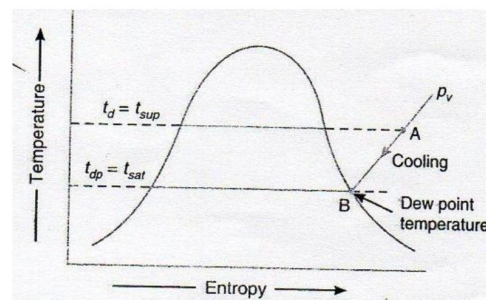

Fig.1. T-s diagram
11. **Dew point temperature.** It is the temperature of air recorded by a thermometer, when the moisture (water vapour) present in it begins to condense. In other words, the dew point temperature is the saturation temperature ( $t_{sat}$ ), corresponding to the partial pressure of water vapour ( $P_v$ ). It is, usually, denoted by  $t_{dp}$ . Since  $p_v$  is very small, therefore the saturation temperature by water vapour at  $p_v$  is also low (less than the atmospheric or dry bulb temperature). Thus the water vapour in air exists in the superheated state and the moist air containing moisture in such a form (i.e., superheated state) is said to be unsaturated air. This condition is shown by point A on temperature-entropy (T-s) diagram as shown in Fig.1. When the partial pressure of water vapour ( $P_v$ ) is equal to the saturation pressure ( $P_s$ ) the water vapour is in dry condition and the air will be saturated air
If a sample of unsaturated air, containing superheated water vapour, is cooled at constant pressure, the partial pressure ( $p_r$ ) of each constituent remains constant until the water vapour reaches the saturated state as shown by point B in Fig.1. At this point B, the first drop of dew will be formed and hence the temperature at point B is called dew point temperature. Further cooling will cause condensation of water vapour.